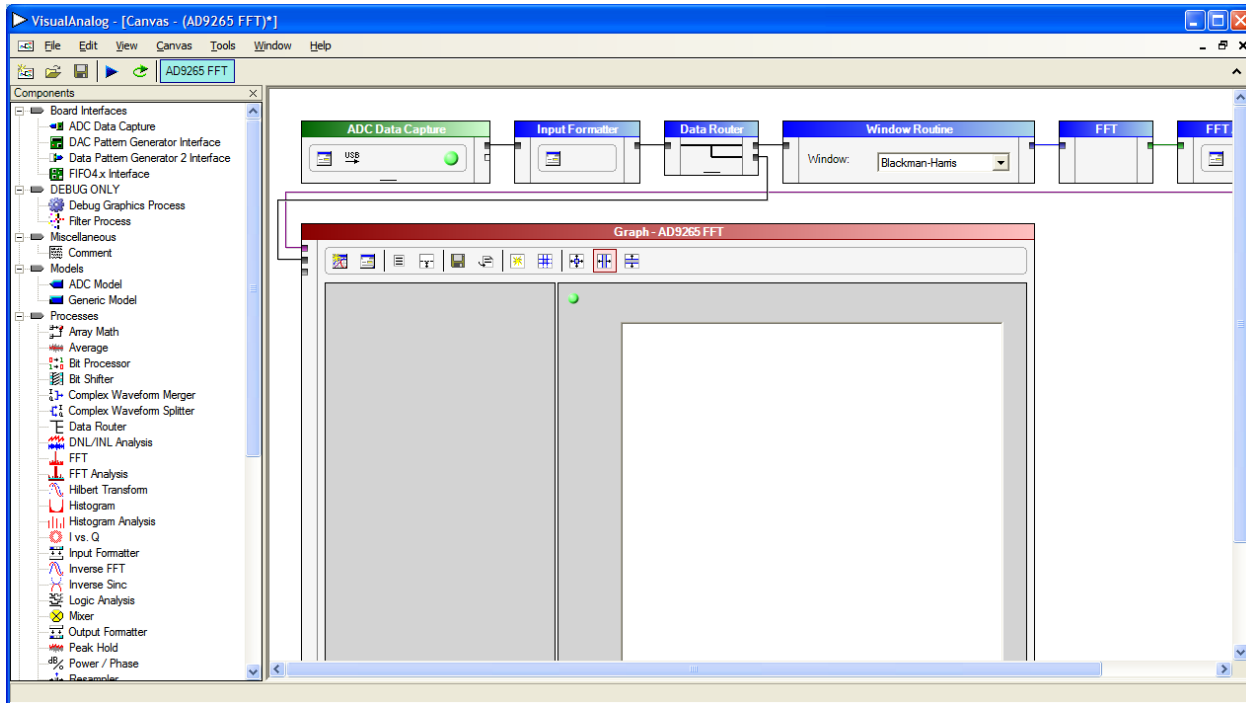

Figure 7. VisualAnalog, Main Window
3. To change features to settings other than the default settings, click the **Expand Display** button, located on the bottom right corner of the window, to see what is shown in Figure 7. Detailed instructions for changing the features and capture settings can be found in the AN-905 Application Note, *VisualAnalog Converter Evaluation Tool Version 1.0 User Manual*. After the changes are made to the capture settings, click **Collapse Display** (see Figure 7).
- In **VisualAnalog** (see Figure 7), click the **Settings** button in the **Input Formatter** block. Check that **Number Format** is set to the correct encoding (offset binary by default). Repeat for the other channel.
- Make sure the correct FPGA program was installed by selecting the **Settings** button in the **ADC Data Capture** block in **VisualAnalog** (see Figure 7). Then select the **FPGA** tab and verify that the proper FPGA bin file is selected for the part.